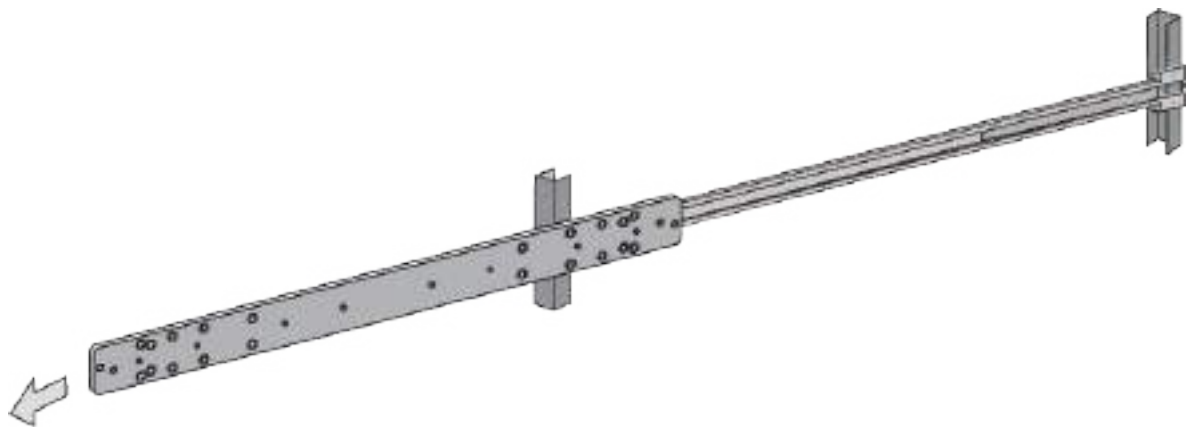

Figure 89. Removing the Inner Rail
4. Remove the inner rail from the outer rail. Refer to Figure 89.